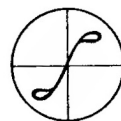

FIG. 1
8. Adjust ratio detector secondary slug No. A8 to center the cross over point of the pattern. Pattern should look like Fig. 1, with the same amount of curve on both ends, and the cross over point in the center.